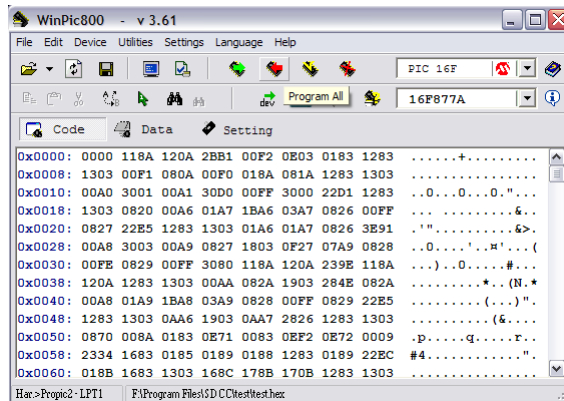
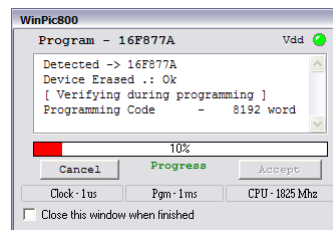

Figure 13: Program all button
Figure 14: Wait until the programming is finished.
10. Click on **Program All** button in the tool bar (Figure 13) and wait until the operation is finished (Figure 14).